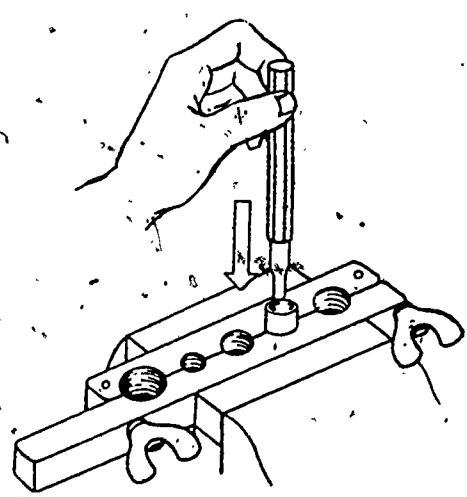

Figure 8. Operating Swaging Tools
- b. Insert one piece of copper tubing in the flaring block as illustrated in figure 8.
NOTE: Figure 8 illustrates the amount of tubing to be left above the flaring block.
c. Insert the combination swaging tool in the tubing as illustrated in figure 8.